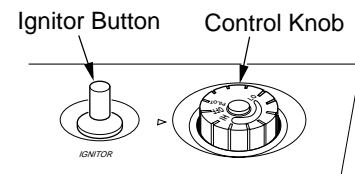

Figure 19 - Control Knob In The OFF Position
4. Wait five (5) minutes to clear out any gas. Then smell for gas, including near the floor. If you smell gas, **STOP!** Follow "B" in the safety information above. If you don't smell gas, go to the next step.
5. Turn control knob counterclockwise  to the PILOT position. Press in control knob for five (5) seconds (see Figure 19).
**Note:** If pilot goes out, repeat steps 3 through 7. This heater has a safety interlock system. Wait one (1) minute before lighting pilot again.